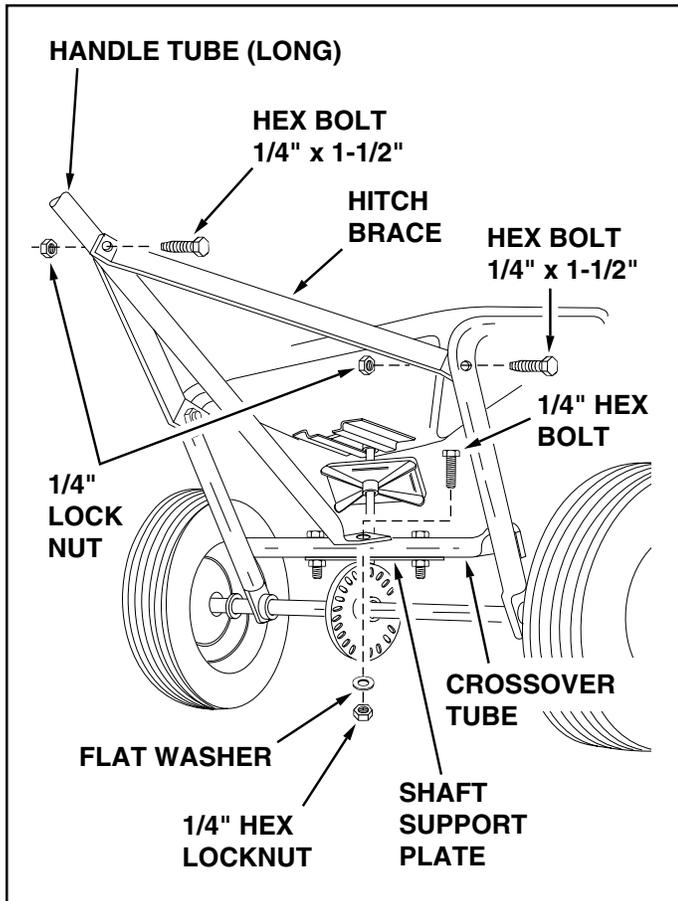

FIGURE 5
10. Assemble two handle braces to the inside of the hopper frame, one on each side, using two 1/4" x 1-1/2" hex bolts and two 1/4" lock nuts. See figure 5. **Do not tighten at this time.**
11. Assemble the other end of the two handle braces to the long handle tube using a 1/4" x 1-1/2" hex bolt and 1/4" lock nut. **Do not tighten at this time.** See figure 5.
12. **Tighten** all hex lock nuts and bolts in same sequence as assembled in steps 9 through 11. See figure 5.